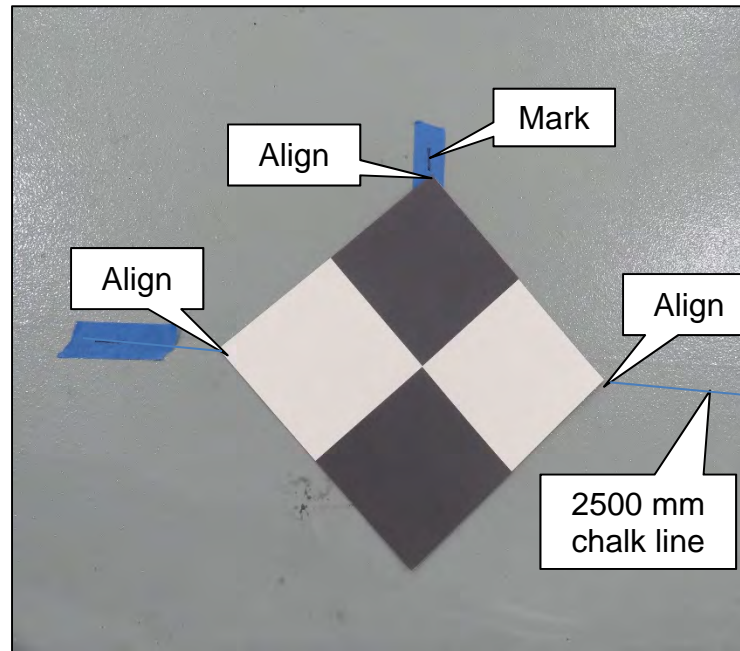
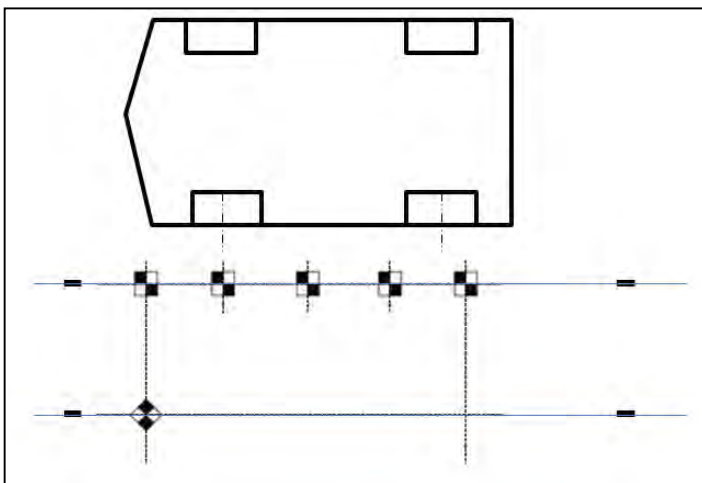
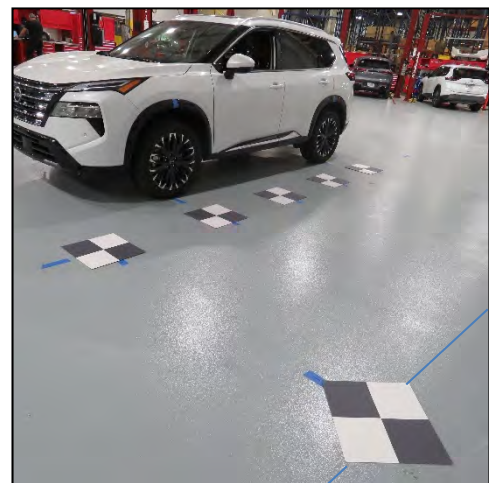

Figure 44
Figure 45
Figure 46
32. Place one (1) target on the forward most mark on the 2500 mm chalk line.
**IMPORTANT:** Orient and align the target, as shown in Figure 44, Figure 45 and Figure 46. The target must be aligned with the 2500 mm chalk line and the mark made in step 30 on page 22.